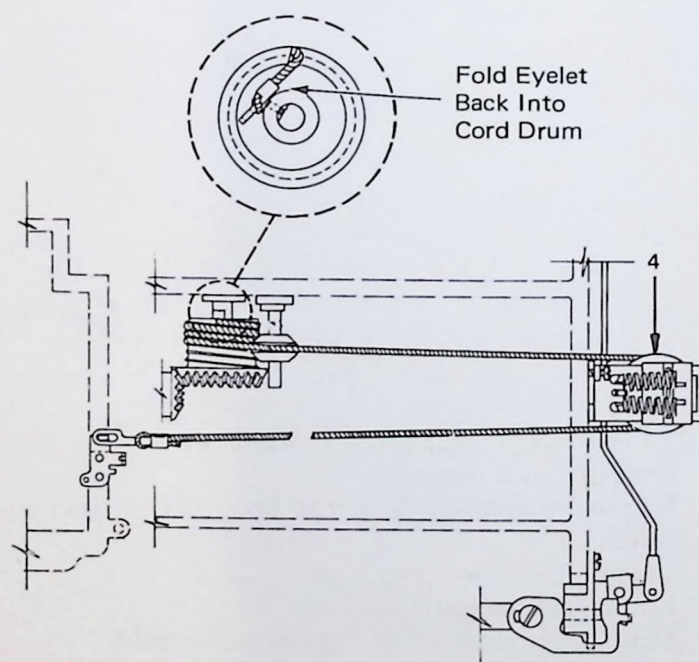

Figure 17
8. Connect the escapement cord to the escapement cord drum and wrap, approximately one turn of the cord around the drum. (Figure 17)